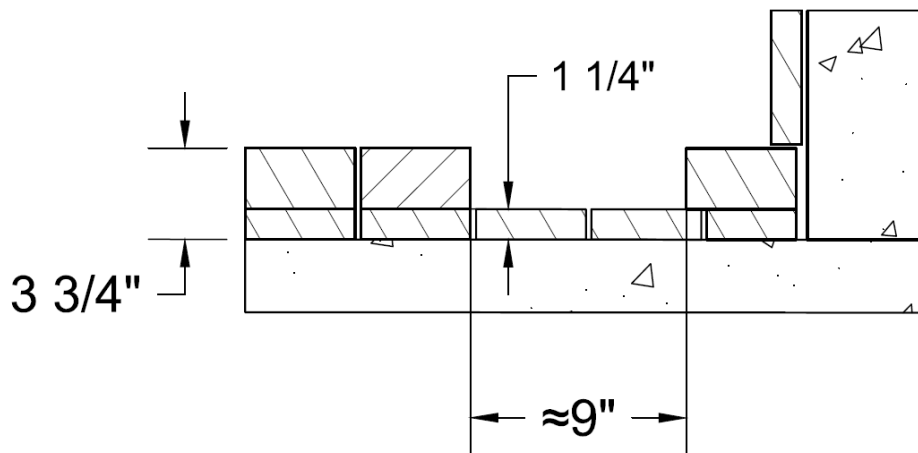

FIGURE 46
- 4) The 48", 60", and 72" and 96" XCELUX fireplaces will require the ISFXLB24/36/48/60/72 (N/P) (respectively): Gas supply piping for these models shall terminate not less than 3" from sidewall. (**Figure 46**)
- 5) The 120" XCELUX fireplaces will require the ISFXLB72/96 (N/P) (respectively): Gas supply stub piping for these models shall terminate within 3" from center of the cavity. (**Figure 46**)